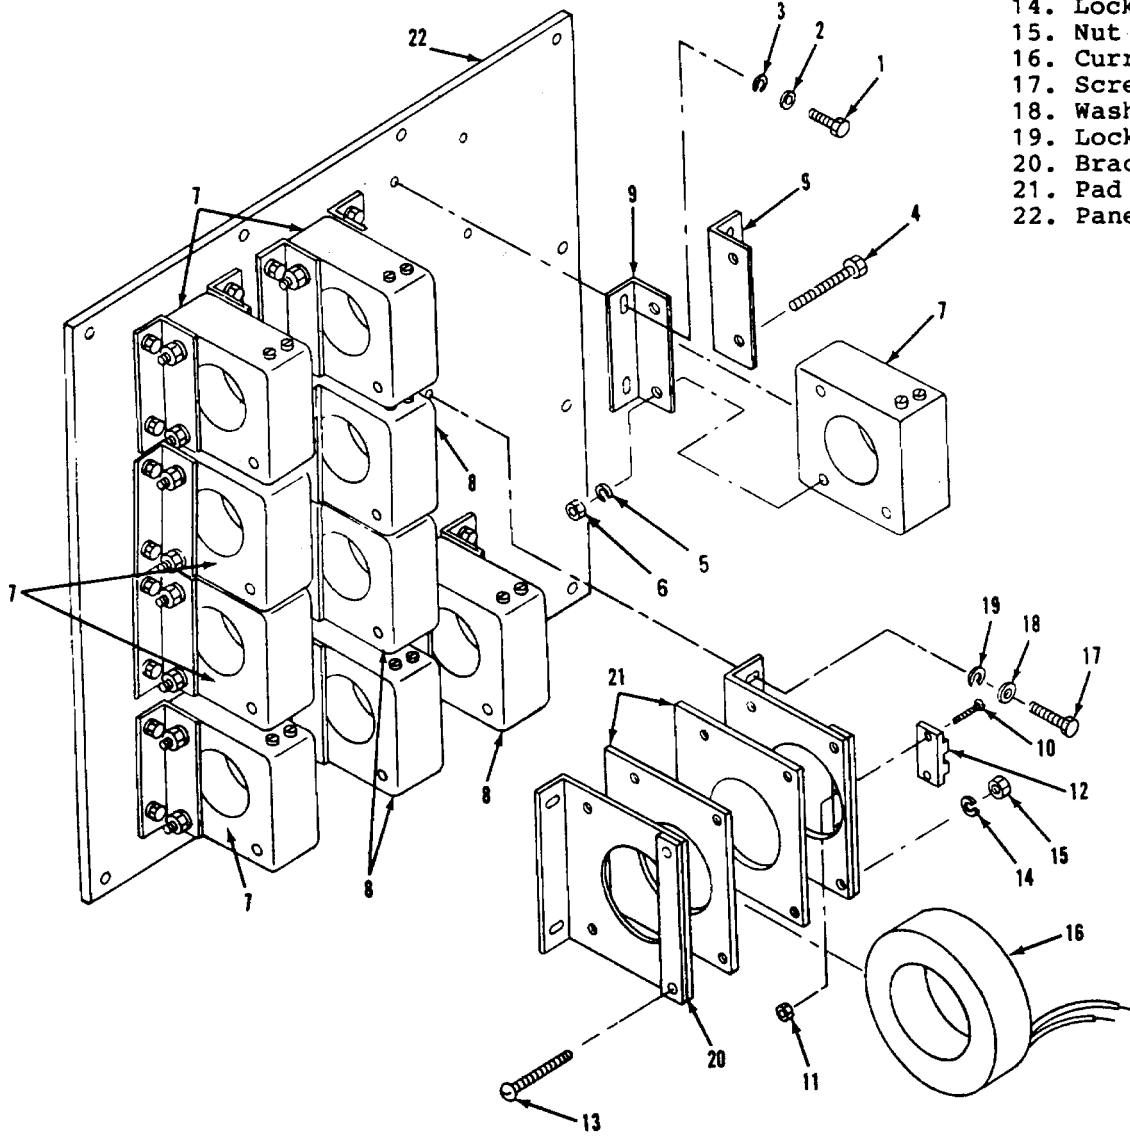

Figure 11-2. Current Transformer Assembly, Exploded View
- a. Inspection. Inspect the current transformers (figure 11-2) for cracks in the plastic, breaks, loose mounting, loose connections, or corrosion.
- (a) Current transformers CT1, CT2, CT3, CT11, CT12, and CT13 (7, figure 11-2) should read 7.5 ohms at 77°F (25°C).
- (b) Current transformers CT4, CT5, CT6, and CT10 (8) should read 0.420 ohms at 77°F (25°C).
- (c) Current transformer CT7 (16) should read 0.089 ohms at 77°F (25°C).
- (2) Current Test.
- (d) Replace defective current transformers. Replace rubber pads (21) when reassembling current transformer (16).
- (1) Removal. (See figure 11-2.)